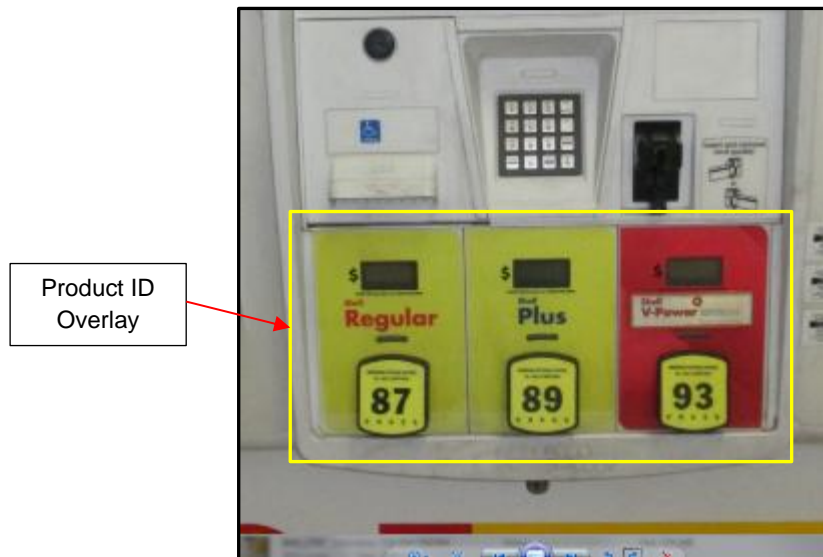

Fig 1.12 – Location of Product ID Overlay
**Retrofit G6-300 + InvencoLink GVR Encore 500S 700S (US) Installation Guide**
14. Remove the Product ID Overlay to expose screws. (Fig 1.12)